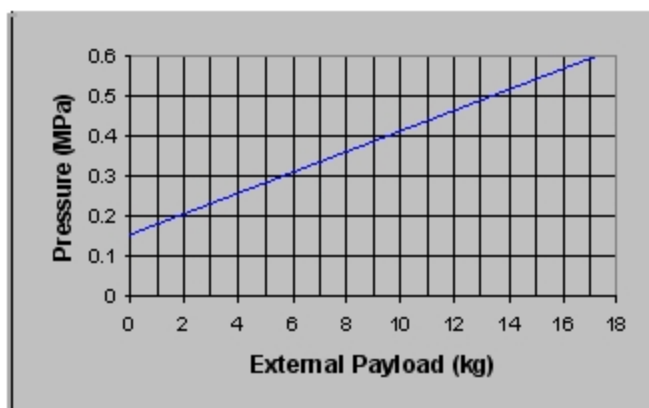

Figure 2-3: Counterbalance Pressure vs. External Payload
This relationship is shown graphically in Figure 2-3.
2. Turn on the air supply to both the air bearing stage and the pneumatic counterbalance. The pressure supply to the counterbalance fitting must exceed the pressure determined by Figure 2-3.
4. Estimate the pressure required to lift the payload using Figure 2-3
The air supply to the air bearing and pneumatic counterbalance is important for the operation of the system. If compressed air is used, it must be filtered to 0.25 microns, dry to 0°F dew point, and oil free. If nitrogen is used, it must be 99.99% pure and filtered to 0.25 microns. The filtration requirement is to prevent particles from clogging the air bearing and the pneumatic cylinders. For the air bearing, air pressure in the range of 517 kPa to 551 kPa (75 psi to 80 psi), is necessary for use. The pneumatic counterbalance pressure supply is determined by the amount of payload carried by the stage (Figure 2-3).